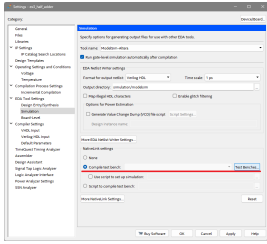

Figure 19: Click "Test Benches"
10. Click "Test Benches". (Figure 19)